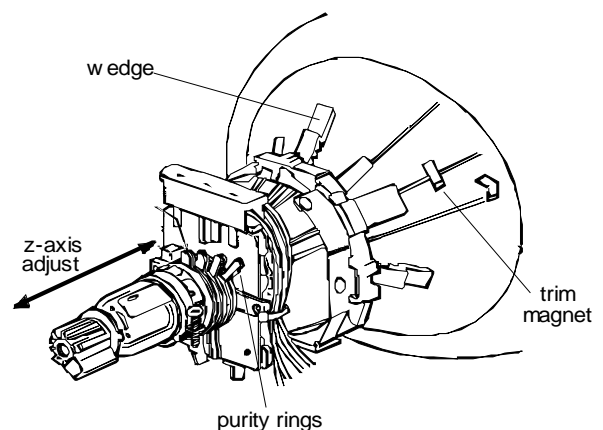

Fig. 5 - TubelYoke Assembly
- Adjust the yoke z-axis (see Fig. 5) to balance the upper two (blue) registration circles.